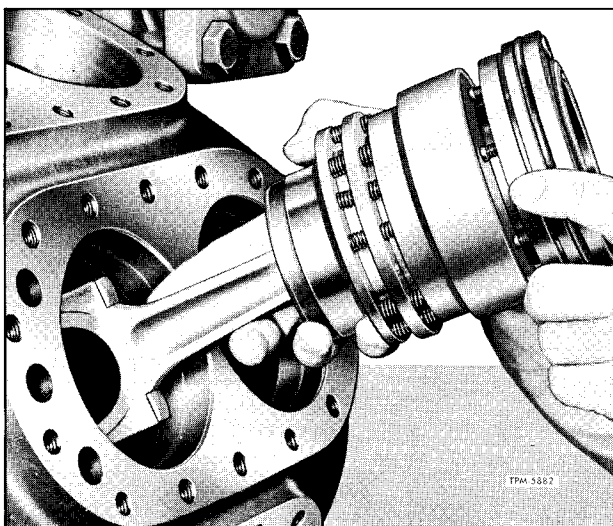

Figure 89—Installing Connecting Rod, Piston Liner, and Unloader Assembly
8. Referring to figure 89, push the entire connecting rod and liner assembly down into housing bore as far as liner will go without being forced.
9. With connecting rod in position at crankshaft journal, install rod cap (65). **CAUTION:** Make